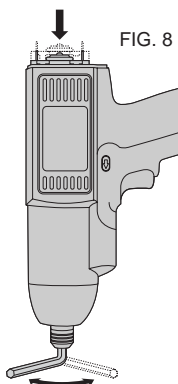

FIG. 8
- 8) Insert the 1/4" hex wrench into the spindle, and turn the spindle until the gear teeth on the motor engage with the gears in the tool. The motor will drop about 1/4" into the tool housing (Figure 8).